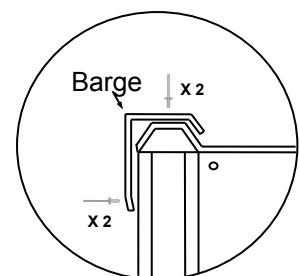

fig.3
- Rivet the Barge Flashings to the roof and the side wall, using two rivets on top of barge and two into the side (**fig.3**).